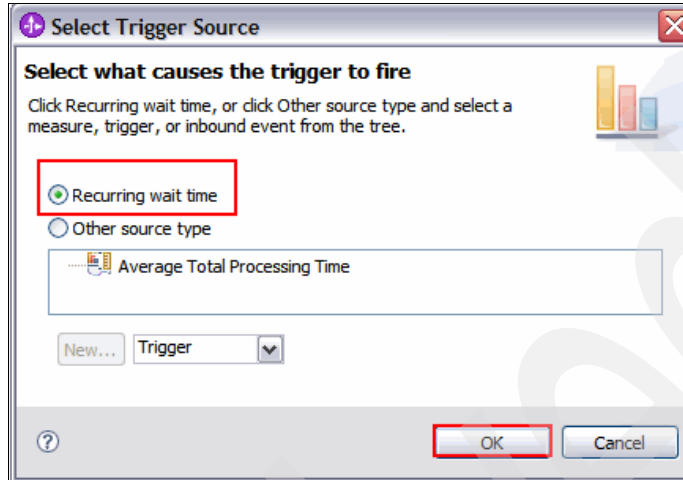

Figure 7-110 Select Trigger Source window
- e. In the Select Trigger Source window (Figure 7-110), select **Recurring wait time** and click **OK**.